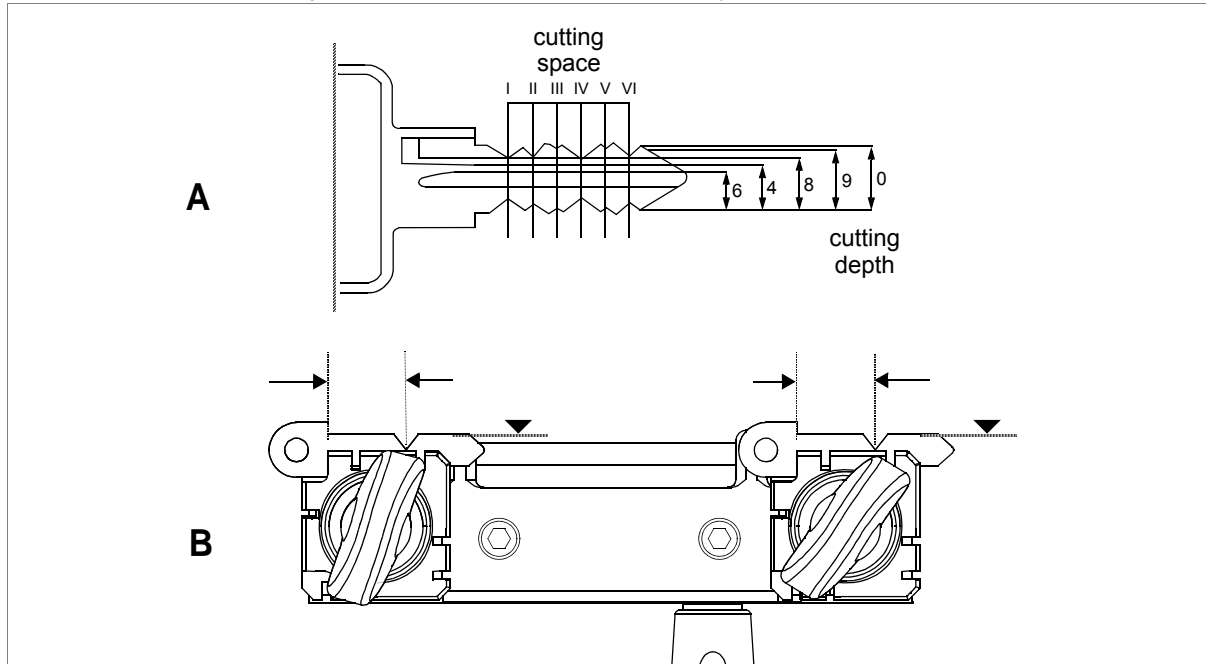

Fig. 13
Axis calibration is regulation of the space between the stop and the cuts (fig. 13).
Depth calibration is regulation of the cutting depth (fig. 13-A).
- 2) Place the adjusting keys (provided) on the clamps (fig. 13-B).